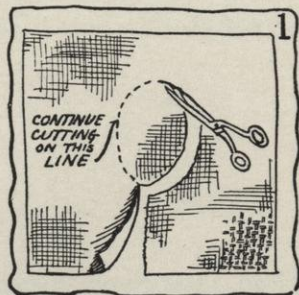

FIG. 1.
- a. Study the picture of the hat, or the actual model that you are planning to make. Compare it with Figures 1 through 4 in Job 7 (page 24) and Figures 1 through 3 in Job 8 (page 34).
- b. As soon as she approves, draw a dotted oval, using merely eye measurement, and cut right into your material on that line (see Figure 1).